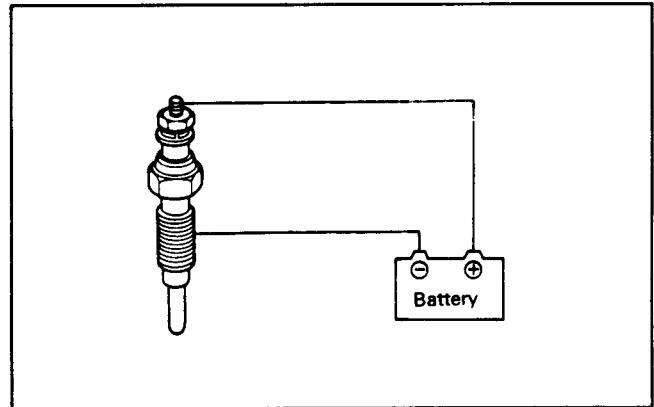

Figure 15
4. Connect the positive (+) battery terminal to the glow plug terminal, and the negative (-) battery terminal to the plug body (Fig. 15). If the glow plug glows red-hot, the glow plug is operating correctly.